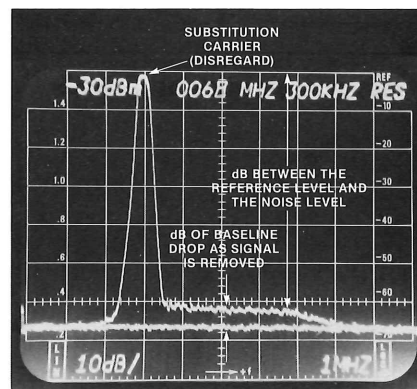

Figure 8-2. Measuring noise levels (multiple exposure photo).
7. Determine the number of dB between the top of the screen and the noise level (figure 8-2).
8. Remove the signal from the analyzer. Note how many dB the noise level falls as the noise signal is removed from the analyzer (figure 8-2).
EXAMPLE: Figure 8-2 shows an uncorrected C/N of 63 dB and a noise fall of 5 dB when the signal is removed from the analyzer.